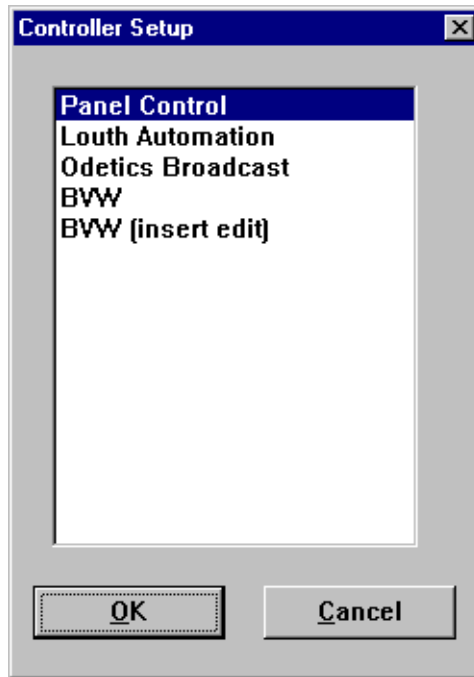

Figure 75. Controller Setup dialog box
2. Choose **Controller | Select** to open the Controller Setup dialog box (Figure 75).